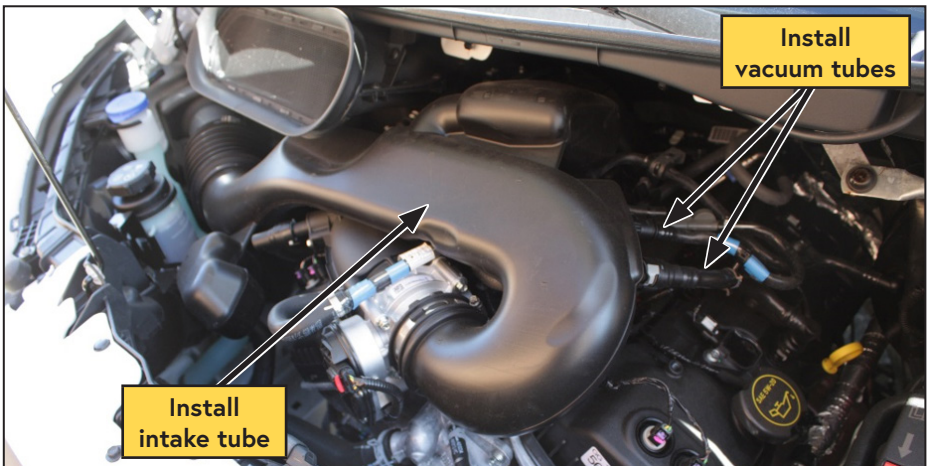

Figure 85 — Remove intake tube
- Reinstall the intake tube onto the air filter box and the engine intake and tighten the hose clamps (Figure 85).
- Reinstall the 2 vacuum tubes to the engine air filter intake tube (Figure 85).